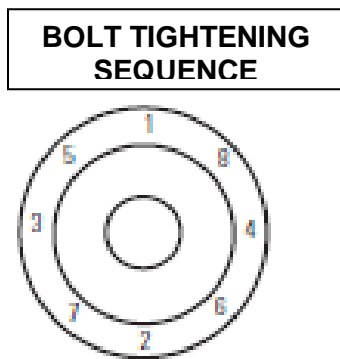

FIGURE 1
7. After proper orientation and alignment is verified, tighten the bolts to the minimum recommended bolt torques listed in **TABLE 1**, using a cross-over pattern as shown in **FIGURE 1**.